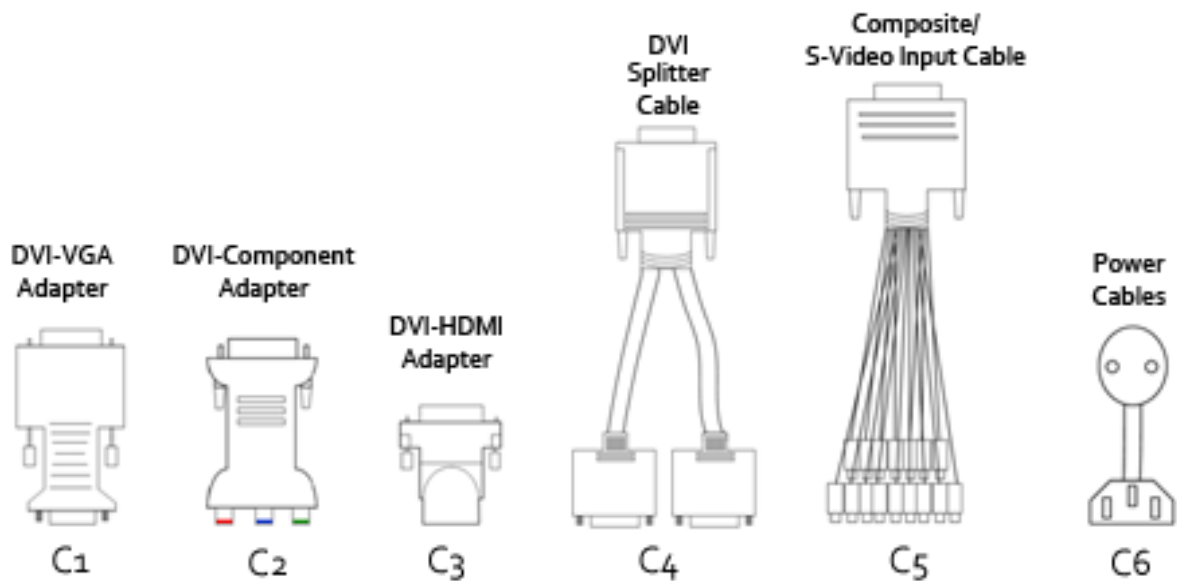

Fig.1
- Cables and Adapters (See Quantity guide Fig. 1)